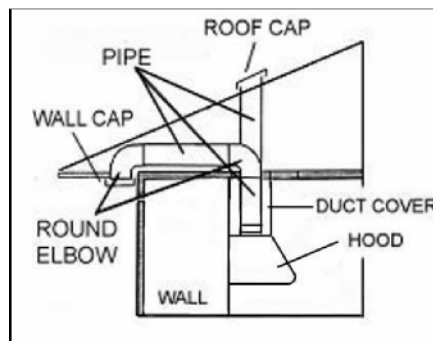

Figure 9
- Decide the location of the venting pipe from the hood to the outside. Refer to Figure 9.